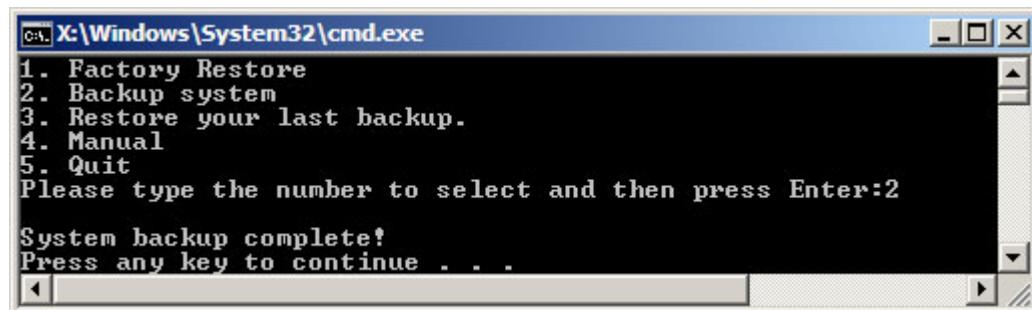

Figure B-27: System Backup Complete Window
Step 3: The screen is shown as in **Figure B-27** when system backup is completed.